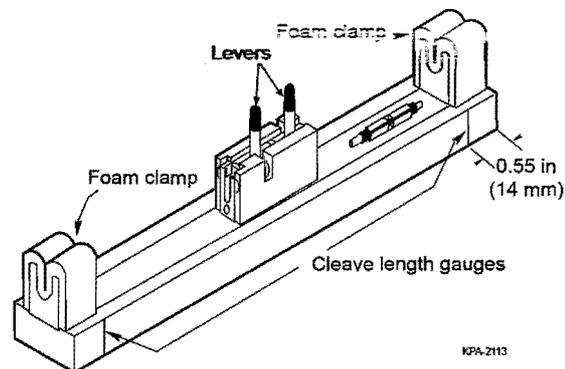

Figure 1 — Place Levers in Vertical Position
Step 1: Position the assembly tool with the CORNING logo on your left. Place both levers (Figure 1) of the assembly tool in their vertical position.